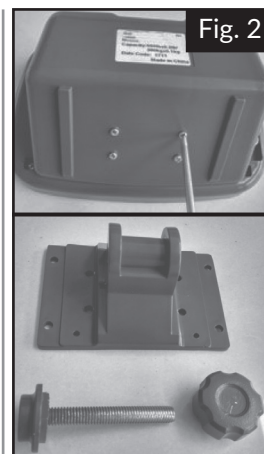

Fig. 2
2. Remove the (4) screws on rear side of the indicator, then disassemble the locking device on the indicator bracket. (Fig. 2)